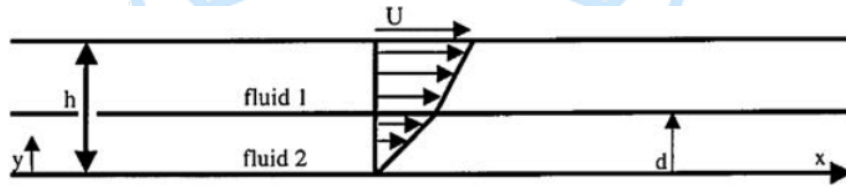

Figure 1
- 5a. Planar Couette flow is generated by placing a viscous fluid between two infinite parallel plates and moving one plate (say, the upper one) at a velocity U with respect to the other one. The plates are a distance h apart. Two immiscible viscous liquids are placed between the plates as shown in the Figure 1. The lower fluid layer has thickness d . Solve for the velocity distributions in the two fluids. List your assumptions.